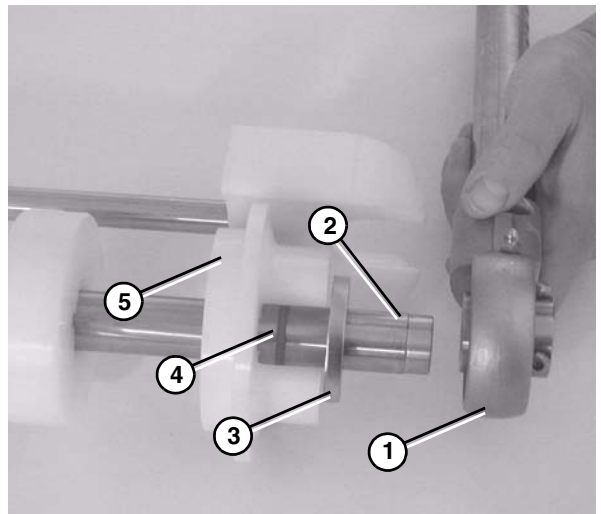

Figure 68
5. Slide off bearing shaft assembly (Figure 68, item 1), washer (Figure 68, item 3), O-ring (Figure 68, item 4), and flanged puck (Figure 68, item 5) off of the idler shaft (Figure 68, item 2).